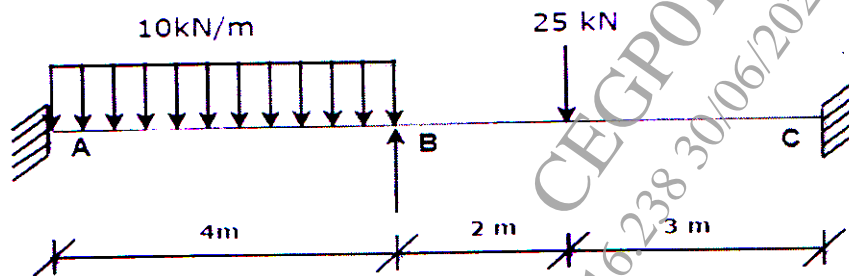

Figure 2
b) Find the rotation at B (θ_B) for the beam with uniform flexural rigidity as shown in figure 2. [6]